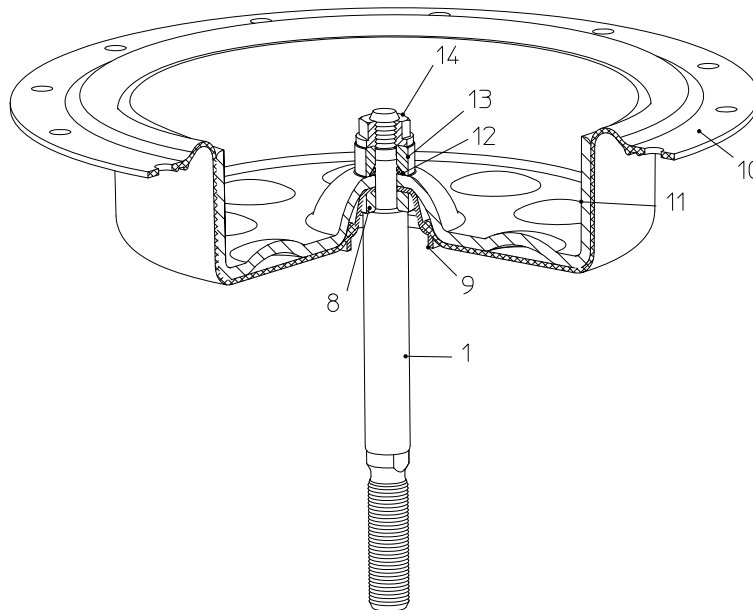
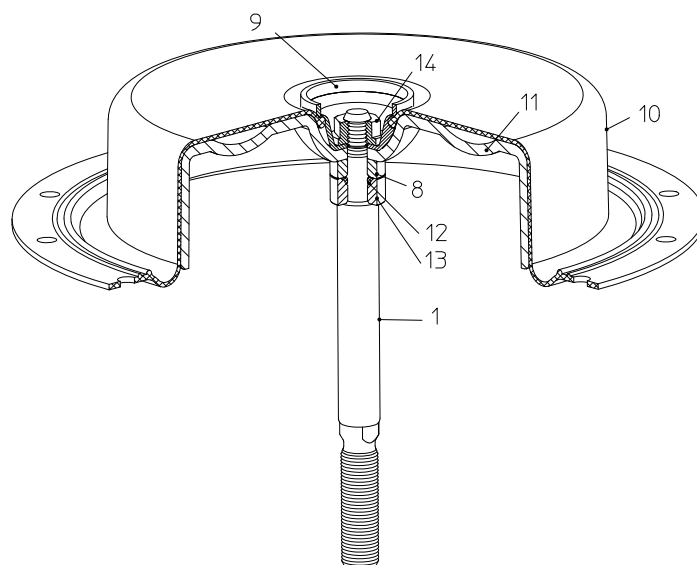
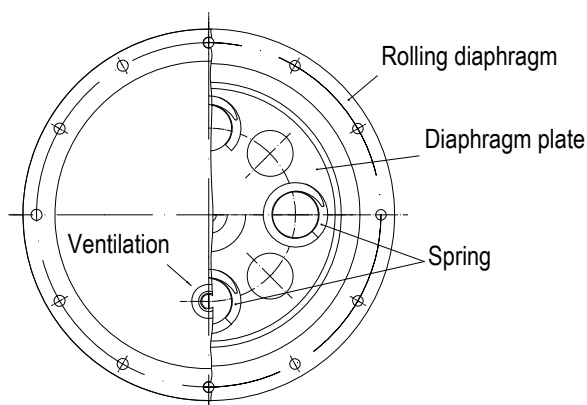

Fig. 21: „actuator stem extends by spring force“
Fig. 22: „actuator stem retracts by spring force“
Fig. 23
- When inserting the assembly group into the actuator „actuator stem extends by spring force“, one mould of the diaphragm plate (pos. 11) must align with one hole of the diaphragm (pos. 10) which must also be exact over the air connection hole of the diaphragm base (pos. 7) (Fig. 21 and Fig. 23).
- When inserting the assembly group into the actuator „actuator stem retracts by spring force“, one mould of the diaphragm plate (pos. 11) must align with one hole of the diaphragm (pos. 10) which must also be exact over the air connection hole of the diaphragm cover (pos. 18) (Fig. 22 and Fig. 23).